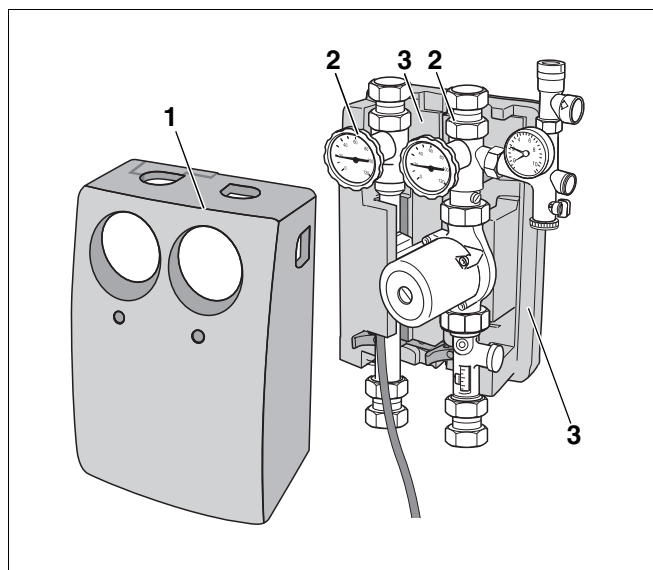

Fig. 19 Installing thermal insulation at the front
- Position the front thermal insulation (Fig. 19, **Item 1**) on the pump legs (Fig. 19, **Item 2**).
- Press the front thermal insulation (Fig. 19, **Item 1**) against the rear thermal insulation shell (Fig. 19, **Item 3**).